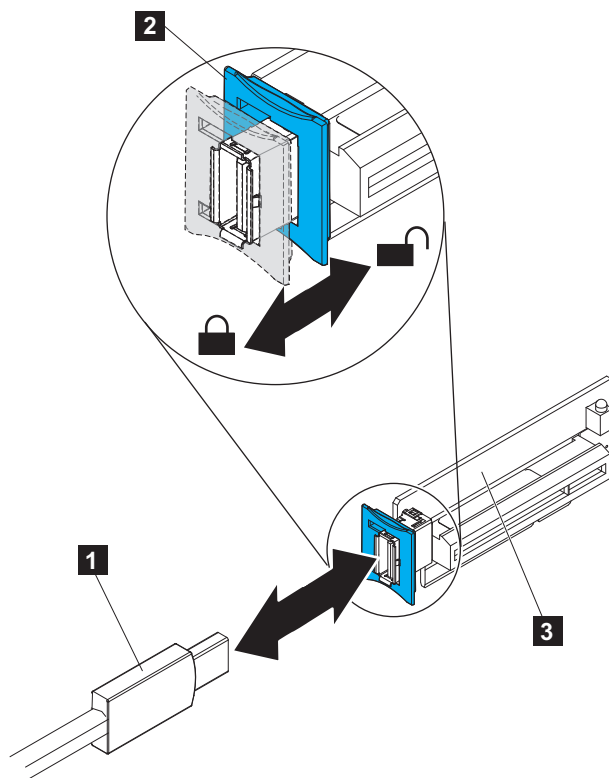

Figure 102. USB service-controller cable connector on the USB riser card
- c. Grasp the blue lockbar (**2** in Figure 102 on page 124) and slide it toward the USB riser-card assembly (**3**) to the unlock position and remove the USB cable (**1**) from the connector.
- b. Align the USB service-controller cable (**1** in Figure 102) with the connector on the USB riser-card assembly (**3**) and push it into the connector until it is firmly seated.